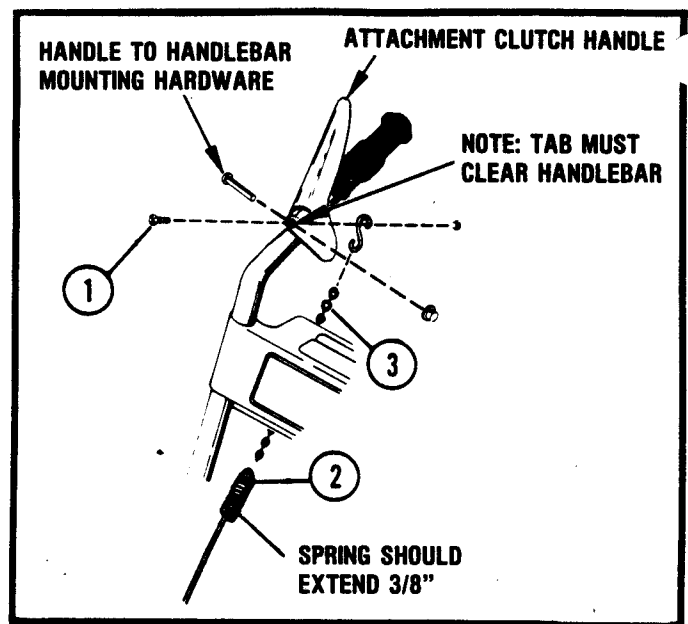
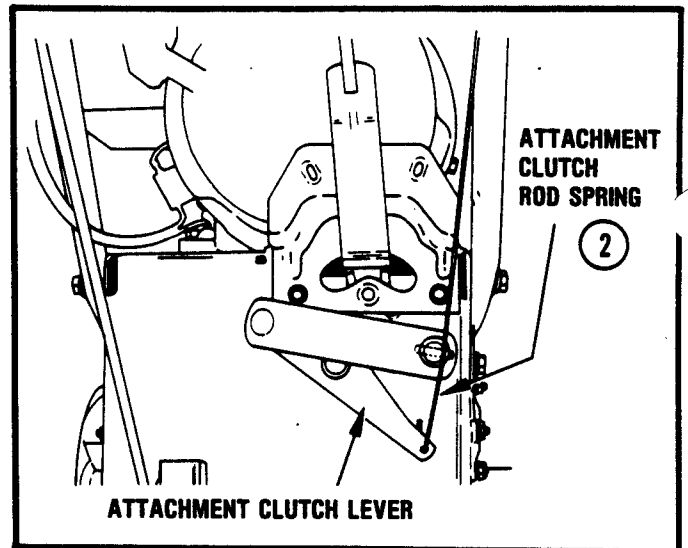

FIGURE 15A
FIGURE 15B
- Attachment clutch rod spring ② should be installed by hooking the end of the rod spring up through the hole in the Attachment Clutch Lever on the right rear of Sno-Thro frame. See Figure 15B. Connect the spring end of the attachment clutch rod spring to a link in the chain ③ on the attachment clutch handle as shown in Figure 15A. With the handle in the disengaged (up) position select a link that will allow the spring to stay slack (not extended) and will extend the spring a minimum of 3/8" length when the handle is engaged (down position). When clutch is disengaged the brake shoe must engage the attachment drive belt on the blower sheave.
- Check function of attachment clutch. The blower attachment must stop running within five (5) seconds.